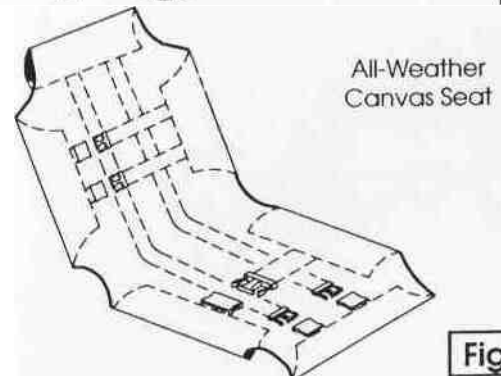

Fig. 7
Place seat (40) on back rest, with the wide flap at top. Install flaps around outside frame and buckle from top to bottom and side to side (see figure 7). Sit in seat and readjust tension until comfortable.